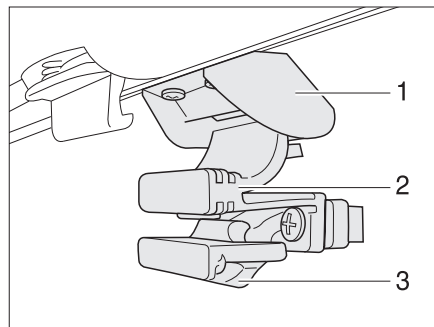

Fig. 48 Window in the conversion door
- Press the locking device (Fig. 48,3) to the rear.
- Press the handle (Fig. 48,2) together and push the window down.
- Push the window upwards until the handle (Fig. 48,2) latches into the locking mechanism (Fig. 48,1).